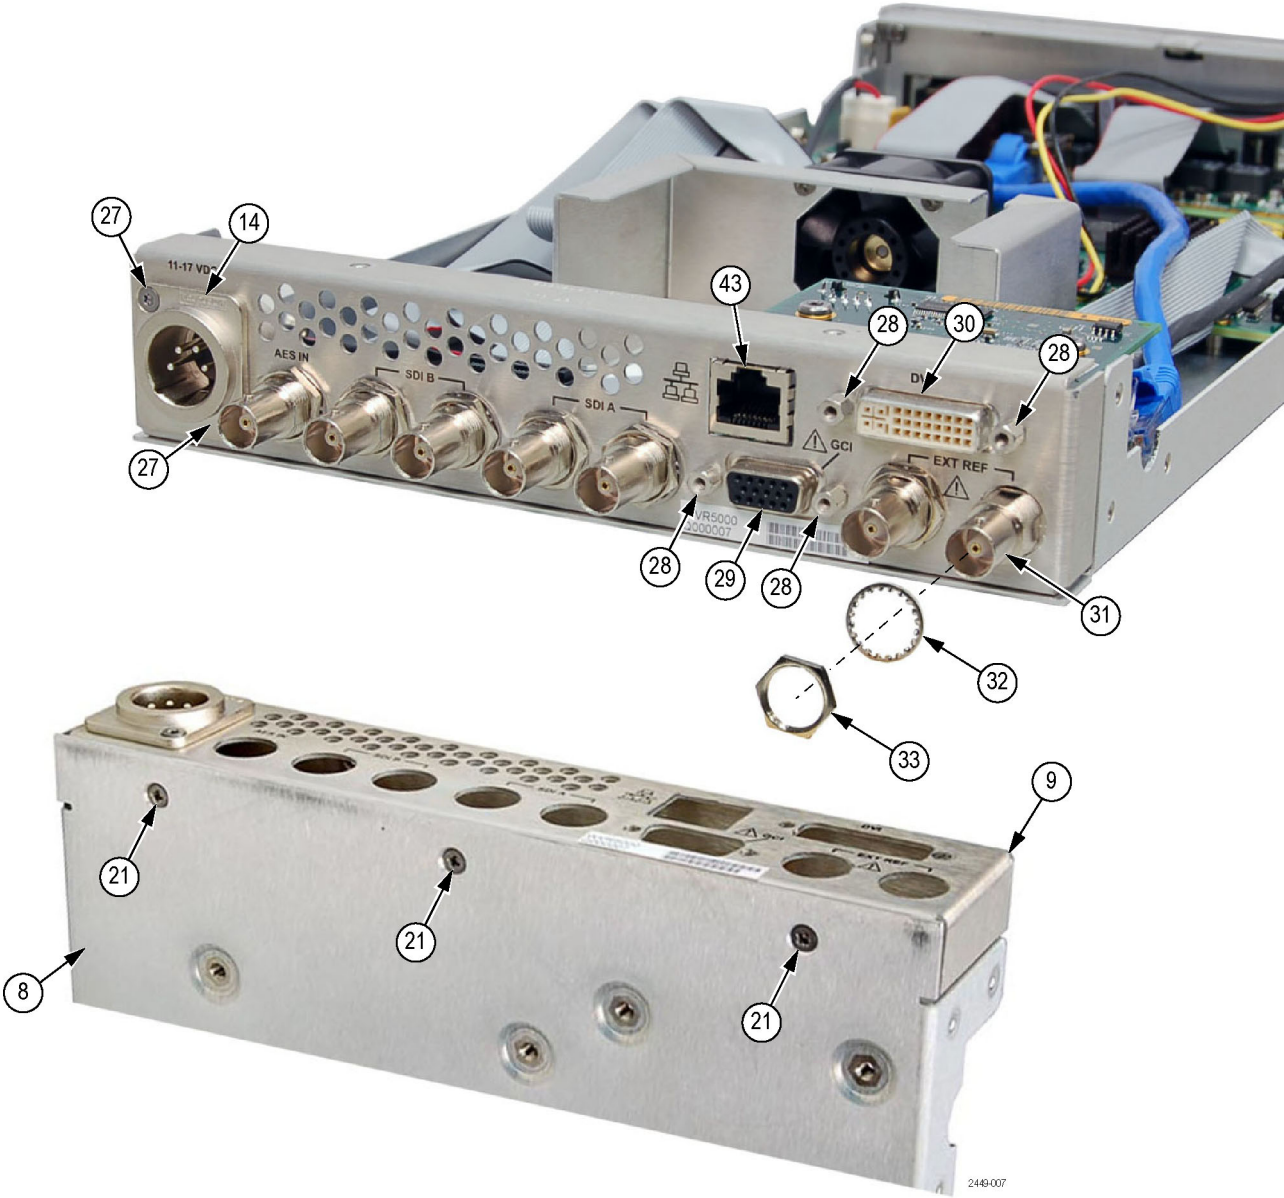

Figure 12: Rear panel removal
- Rear panel** To remove the rear panel, perform the following procedure. (See Figure 12.)